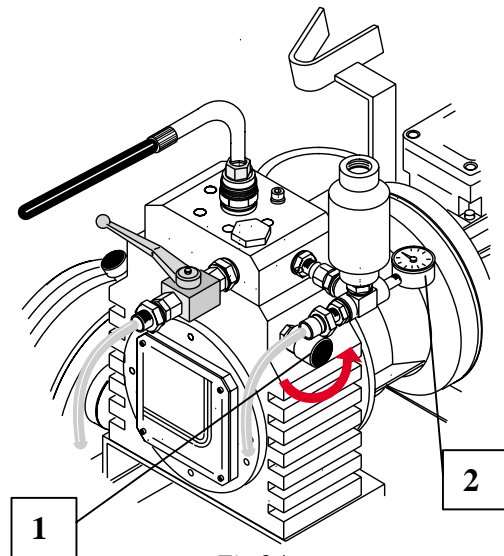

Fig.24
9) According to the viscosity of the product regulate the working pressure by rotating the regulator (0-250 bar) so that the pump can reach its own static pressure balance (fig. 24).